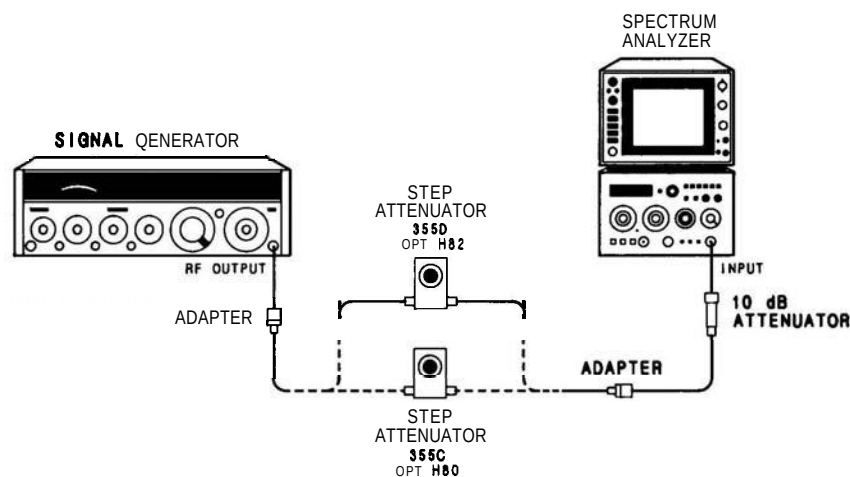

FIGURE 4-18. REFERENCE LEVEL ACCURACY TEST SETUP
2. Connect equipment as shown in Figure 4-18 using 10 dB step attenuator. Set step attenuator to 0 dB and adjust spectrum analyzer TUNING control to center 30 MHz signal on CRT. Set FREQ SPAN/DIV control to 10 kHz and RESOLUTION BW control to 3 kHz, adjusting TUNING control as necessary to keep signal centered on CRT.